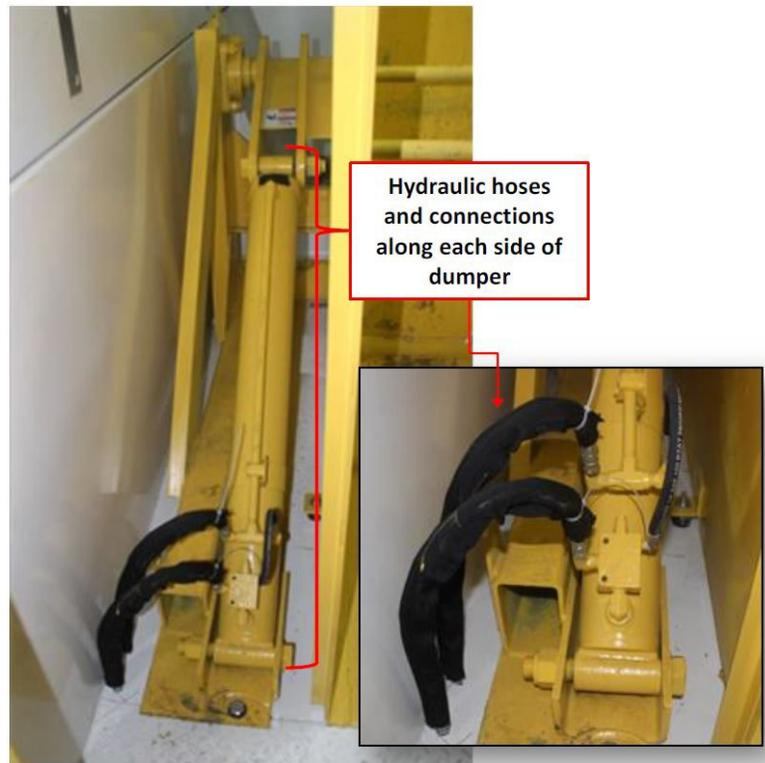

FIGURE 6. Check Hydraulic Hoses
3. Inspect hydraulic lines from the hydraulic power unit to the dumper and compactor. This requires opening the compactor side access panels to inspect the hydraulic hoses and fittings underneath the compactor side access. (Figure 6)